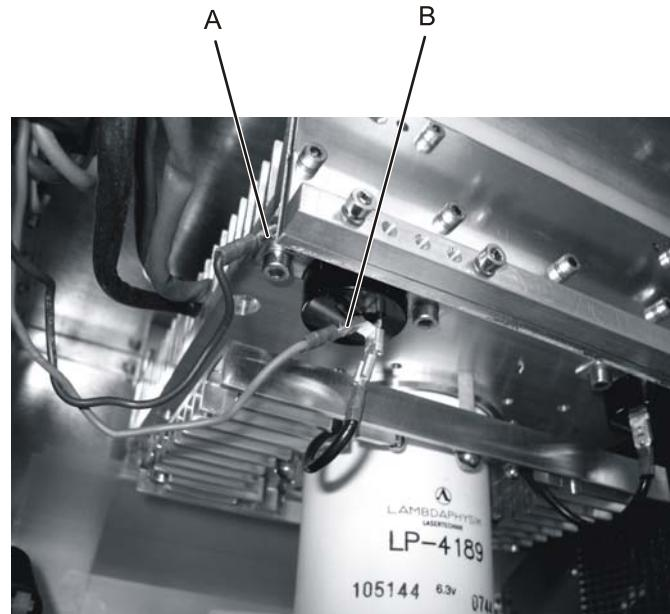

Figure 46: Thyratron ground and HV trigger cable connections
6. Disconnect the ground cable (see Figure 46, A) and HV trigger cable (B).
30. Re-connect the ground and HV trigger cables (see Figure 46).
9. Disconnect the ground cable and HV trigger cable from the cathode heat sink and varistor (see Figure 46 on page 74).
14. Connect the ground cable and HV trigger cable to the cathode heat sink and varistor (see Figure 46 on page 74).